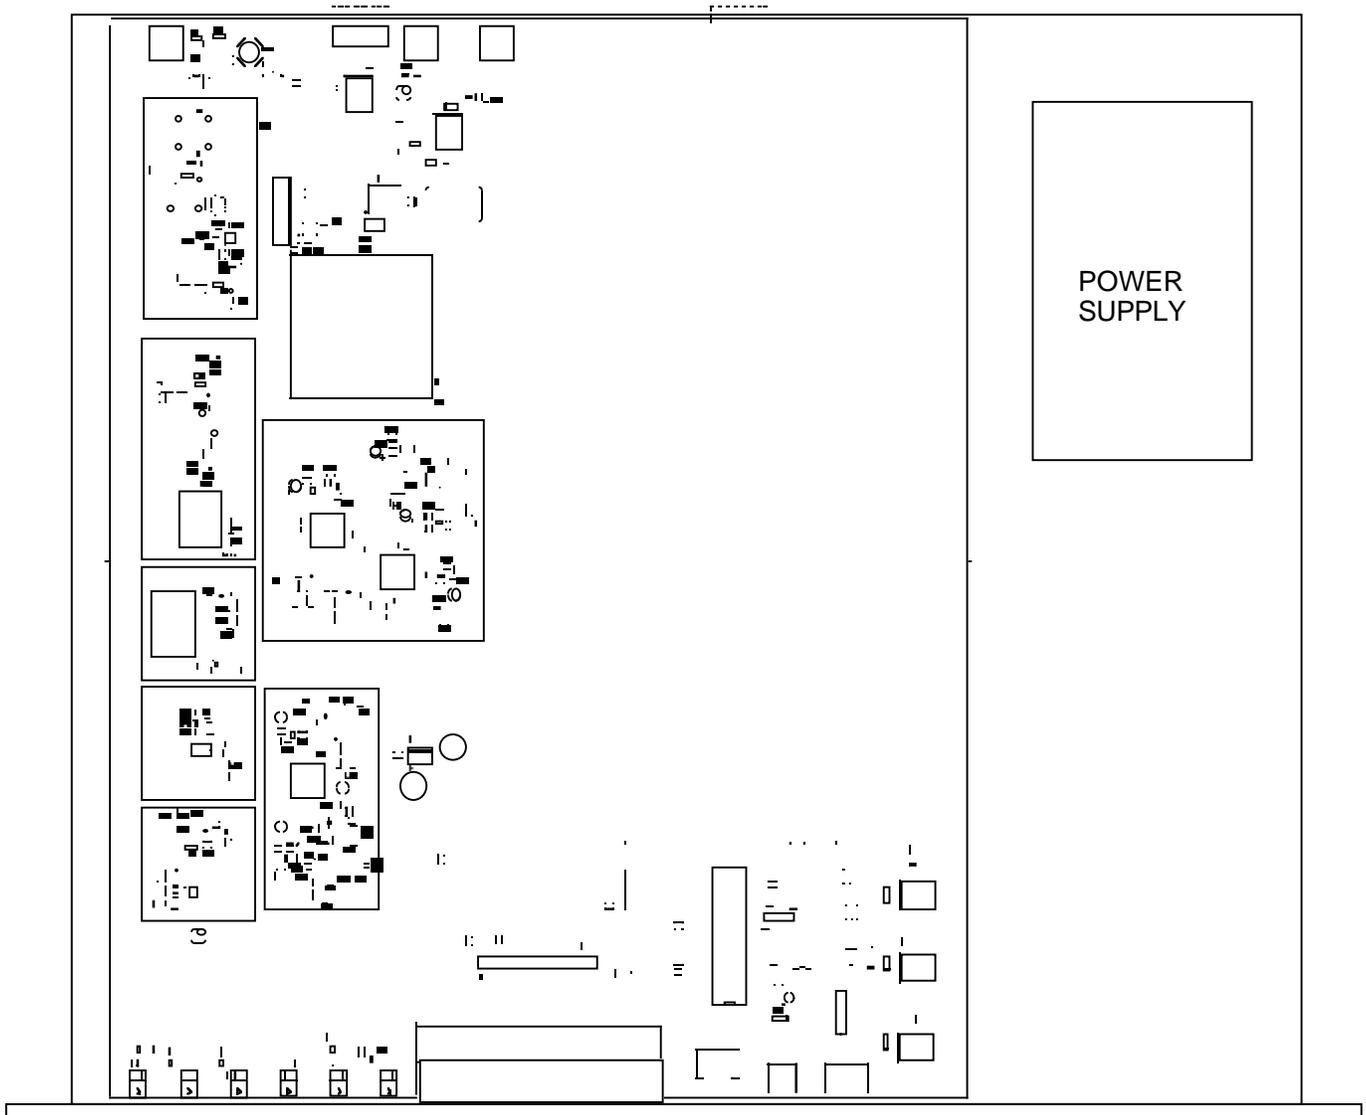

FIGURE 2.1 2015-24 Mechanical Assembly
The 2015-24 consists of one RF/Controller PCB which is housed in a 1 RU (1 3/4 inch high) by 16 inch deep chassis. A switching, ± 12 , +24, +5 VDC power supply provides power for the assembly. The 2015-24 can be secured to a rack using the 4 holes on the front panel. Figure 2.1 shows how the 2015-24 is assembled.
8. Option V ONLY - To insert SSPB +24 VDC on the RF center pin install 2.5A fast blo fuse (included) in F2 and check that DS7 lights yellow (Figure 2.1).